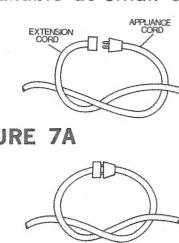
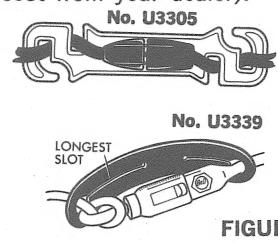

FIGURE 7A
FIGURE 7B
To prevent disconnection of mower cord from extension cord when mowing, (1) make a knot as shown in Figure 7A, or (2) use one of the accessory Cord Connectors shown in Figure 7B (available at small extra cost from your dealer).
14. **EXTENSION CORDS** — To prevent disconnection of mower cord from the extension cord during operation, connect cords exactly as shown in Figure 7A or 7B.